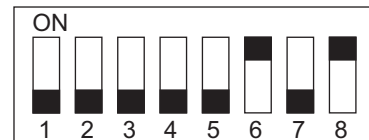

Fig.3-110
(3) Adjust the rear jogging plate to the home position.
- Set SW1 on the finisher controller PC board as shown in  P.3-84 "Fig.3-110".